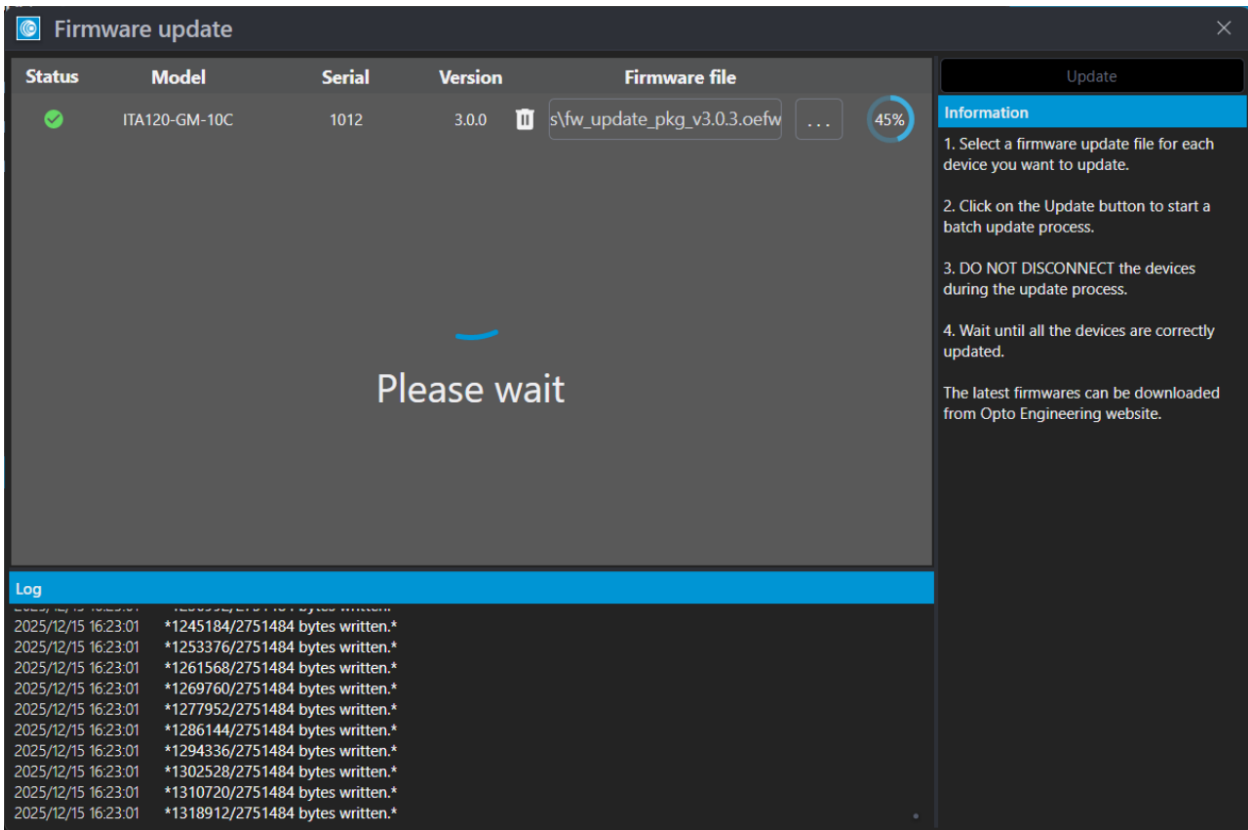

Figure 33: FW update in progress.
3. **Do not disconnect or power down** the devices during the update process (Fig.33). The LED blink signals that the camera is writing to the flash memory.